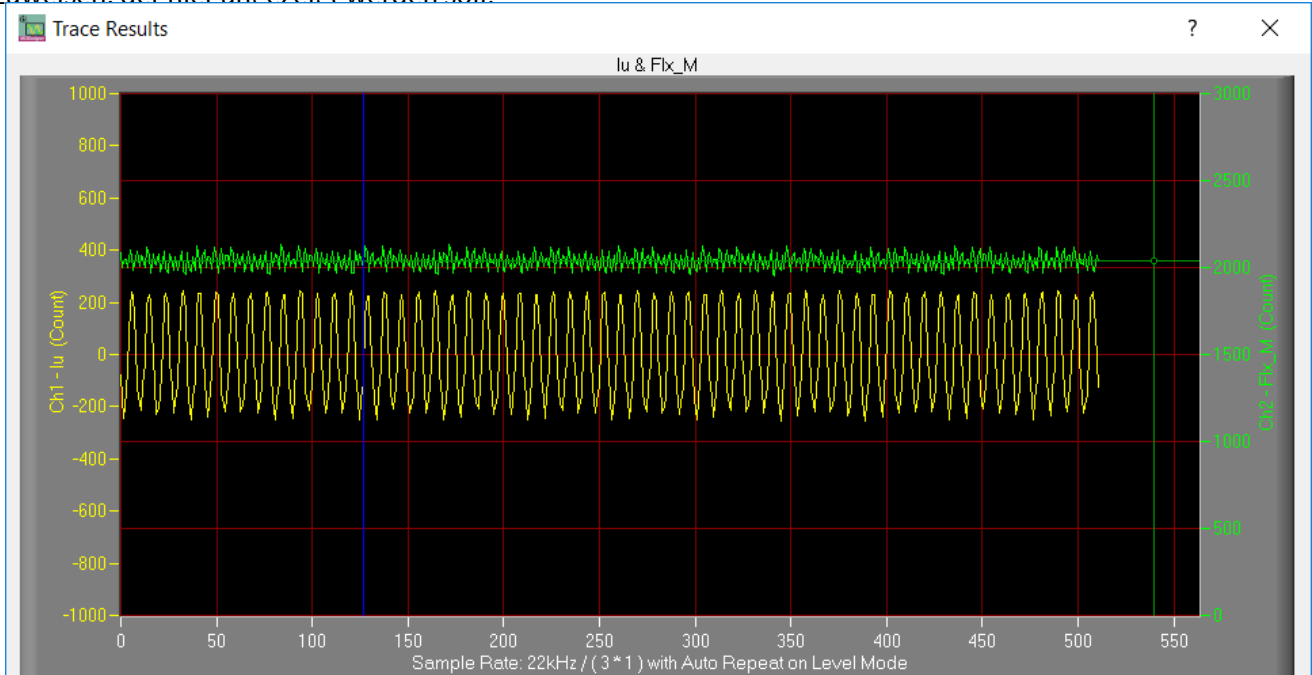

Figure 9 Trace waveform for Iu & Flx-M at 50% Speed
3. Set TargetSpeed to about 50% of maximum speed, start "Iu & Flx_M" trace with "Auto Repeat On Level," see Figure 9. Flx_M is good within the range of 2000~2500 (rated value is 2048), and must be steady and DC-like.